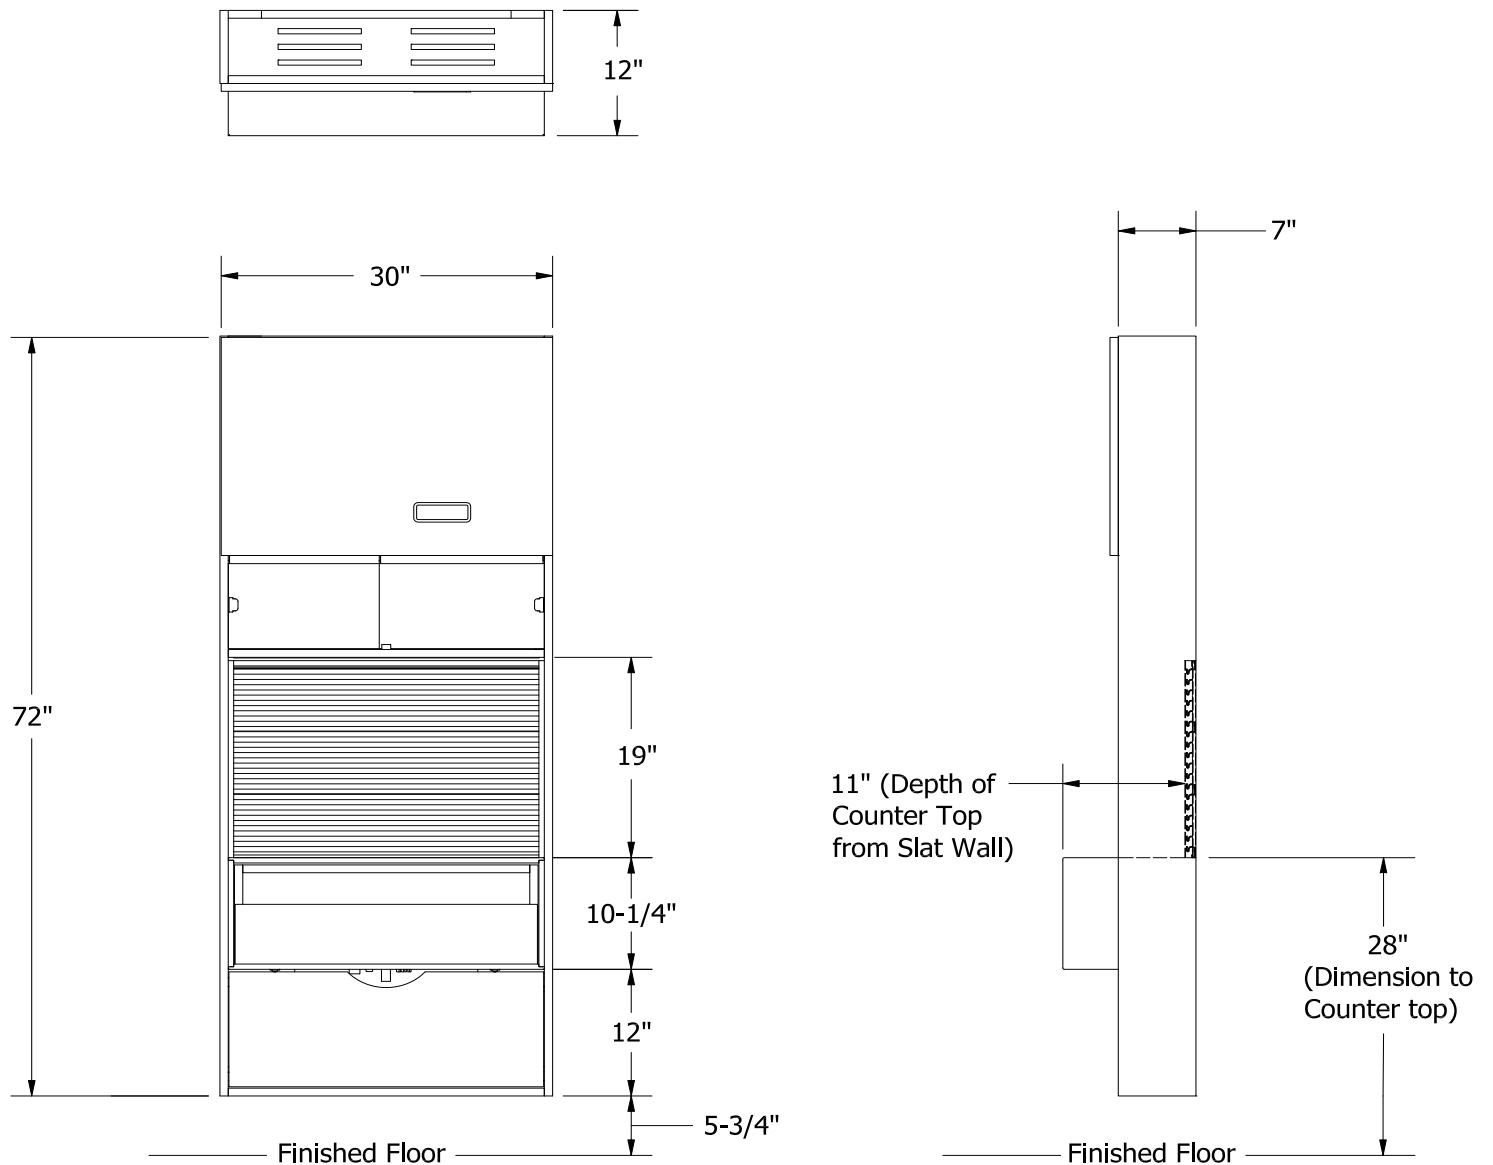

Fig 1.1 - Dimensions of the SlimLine Headwall.
1. The Corian counter top is mounted on the wall and centered to the blocking (see Fig 7.1) and is 28" off the finished floor (see Fig 1.1 page 3)